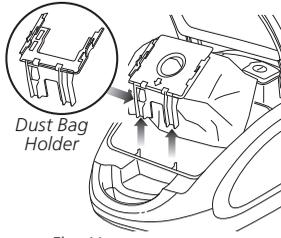

Fig. 11
- 4 Hold the dust bag holder and gently pull it out. (Fig. 11)